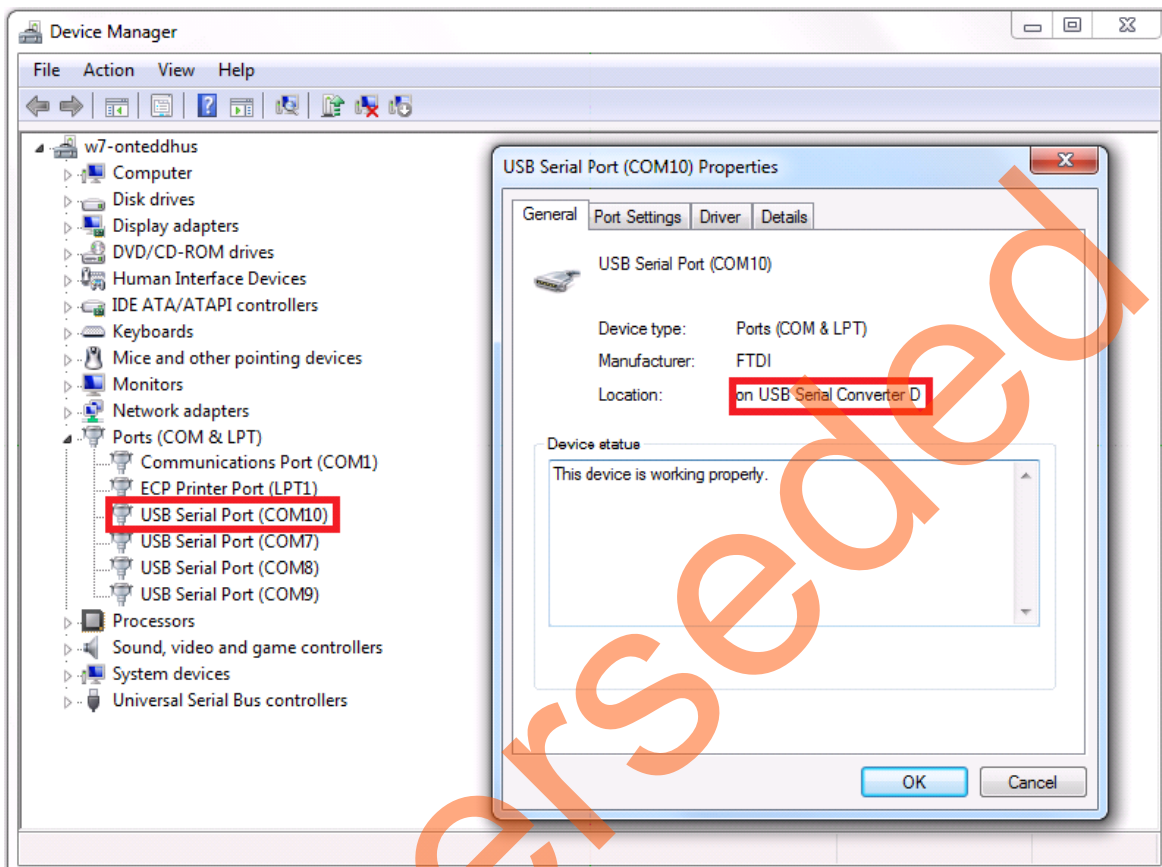

Figure 27 • Device Manager Window
2. Connect the host PC to the J24 connector using the USB Mini-B cable. The USB to UART bridge drivers are automatically detected. Of the four COM ports, select the one with Location as **on USB Serial Converter D**. Figure 27 shows an example Device Manager window.